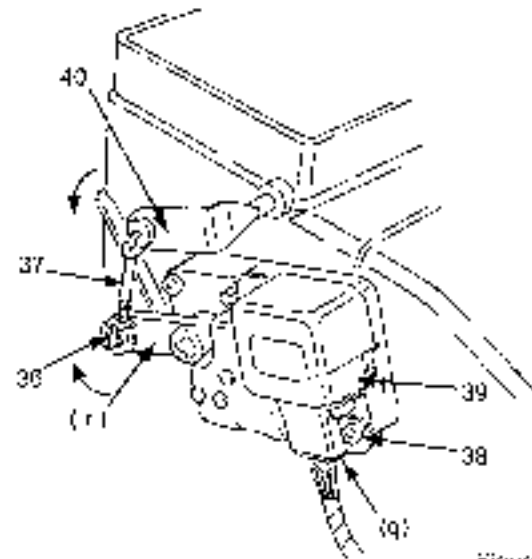

Figure-14
Do not release the rod clamp (36) and remove the rod (37) other than when replacing the actuator. If it has been removed, check to see the lever (r) is at the location indicated in Figure-14.
- Turn the power ON and set to the "" mode. (beware that the lever (r) rotates) Wait for 10 seconds, and then check to see if the lever (r) is at the location shown in Figure-14
- Turn OFF the power and fix the rod (36) as explained in w of the previous section.